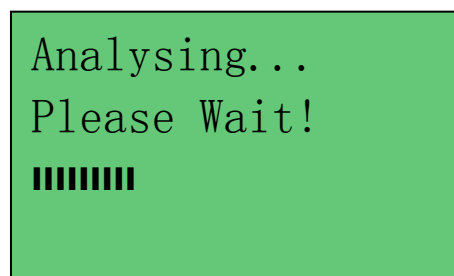

Figure 36
9. Now you need to press  key to proceed and the display will show as follows (Figure 36).